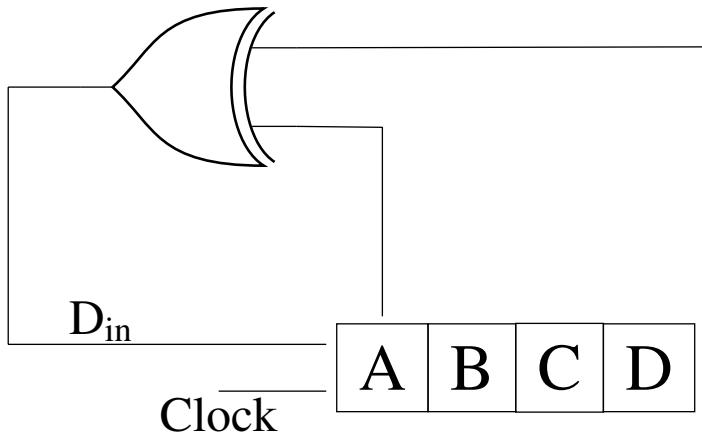

Fig. 5.17
17. A 4-bit shift register circuit configured for right-shift operation, i.e.  $D_{in} \rightarrow A, A \rightarrow B, B \rightarrow C, C \rightarrow D$ , is shown in Fig. 5.17. If the present state of the shift register is  $ABCD = 1101$ , the number of clock cycles required to reach the state  $ABCD = 1111$  is \_\_\_\_\_ (GATE-EC 2017)